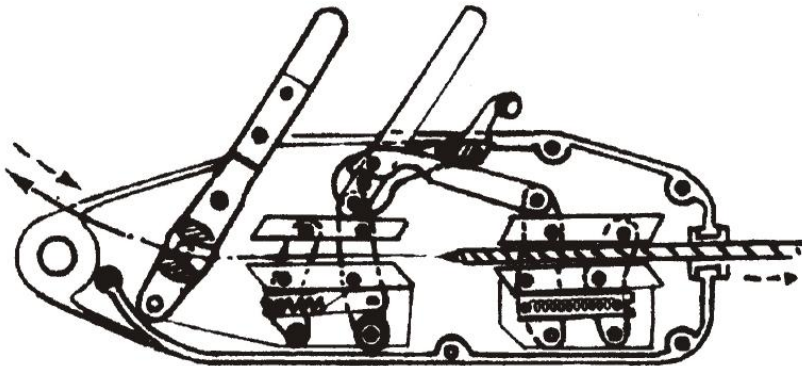

Fig1. Rope reeving and Rope receiving:
1. Reeve: (Fig.1) With the rope head downward and pressing the hoister, push the relaxed handle. When hearing the sound click, pliers mouth has been opened. Then you can reeve the wire rope from the back hole to the hoister. After the rope is out, the rope can be pulled to the length that you need and then push the relaxed handle back to clamp the rope tightly. When the forward handle or the backward handle pulled, the wire rope will automatically go into or come out of the hoister. Thus, the machine is in the normal state and it is teady to be used.
(4.) Draw the rope out (Fig. 1): Having finished the work, the pliers mouth will be opened as soon as the relaxing handle is pushed and then the wire rope can be drawn out of the end of the hoister. Clean the dirt on the rope, wind it into the steel cross in good order to be ready to use next time.